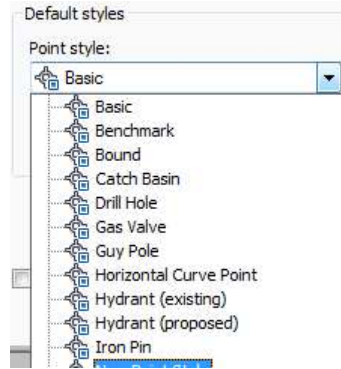

Figure 2-63 Selecting the **New Point Style** option from the **Point style** drop-down list
3. In the **Information** tab, select the **New Point Style** option from the **Point style** drop-down list in the **Default styles** area, as shown in Figure 2-63.